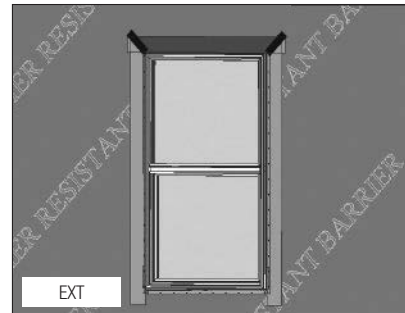

FIG. 14
- Tape the cut seams of the WRB. (Fig. 14)